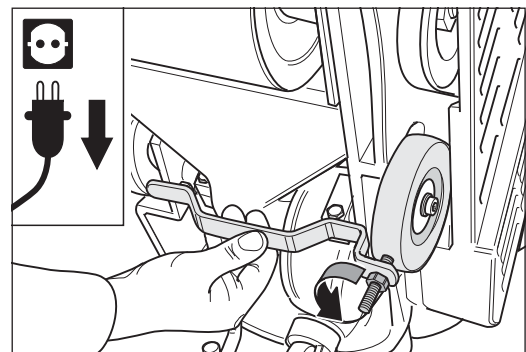

Fig. 82 Take the actual position of the adjustable wheel using the setting fixture (right-hand wheel seen from below).
- 5 For setting, first take the actual position of the adjustable wheel using the setting fixture (right-hand wheel seen from below). Position the fixture against the machine housing in such a way that it rests not only against the machine housing on both sides, but also at the adjustable wheel. If necessary, turn the threaded pin of the setting device. To do this, release the nut of the setting fixture (fig. 82).